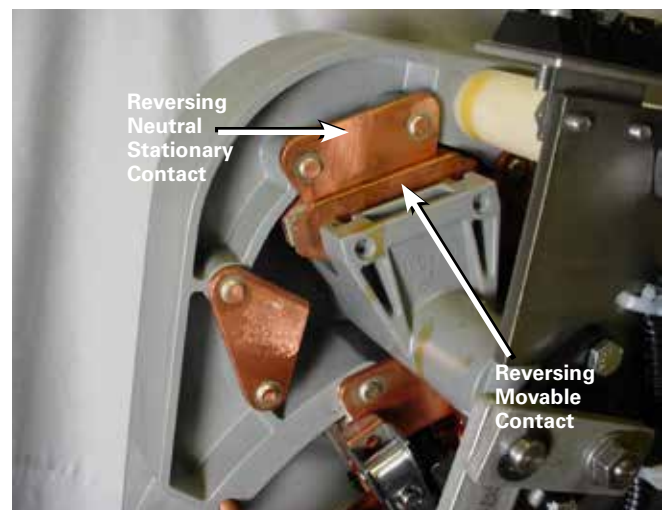

Figure 51. Neutral position for reversing movable.
- B. The reversing movable contact is located on the reversing neutral stationary contact. See Figure 51.